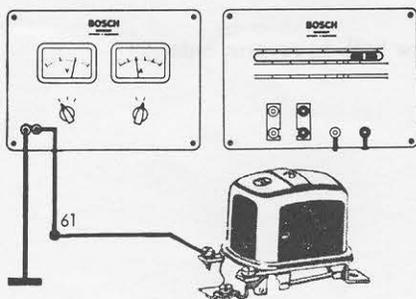

Fig. 5
1. Connections as in Fig. 5 but the A. M. should be connected in series with the control resistor between terminal B+ on regulator and earth.
1. Connections as in Fig. 5, generator to run at double nominal speed.
1. Connections as in Fig. 5 but connect voltmeter positive to B+ 61 on regulator. Set control resistor to nominal capacity, check as detailed in item 2.